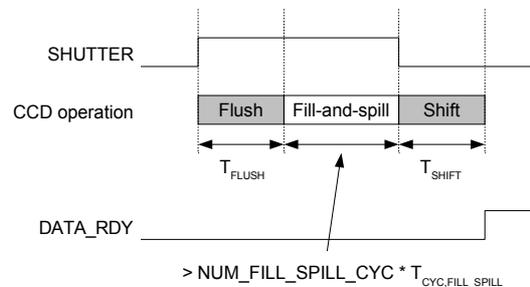

Figure 19: Timing diagram of a fill-and-spill operation of the CCD
The number of fill-and-spill cycles per acquisition can be configured by NUM_FILL_SPILL_CYC in register ANA_TEST_CONF (see Table 32). The duration of one fill-and-spill cycle is $T_{CYC,FILL_SPILL}$ (see Table 31). In order to allow the full fill-and-spill operation to terminate the complete fill-and-spill operation, SHUTTER has to remain asserted for at least $NUM_FILL_SPILL_CYC * T_{CYC,FILL_SPILL}$ after the end of the internal flush operation (see Figure 19).
- Acquire a frame by operating the SHUTTER input as described in section 5.5. and Figure 19.